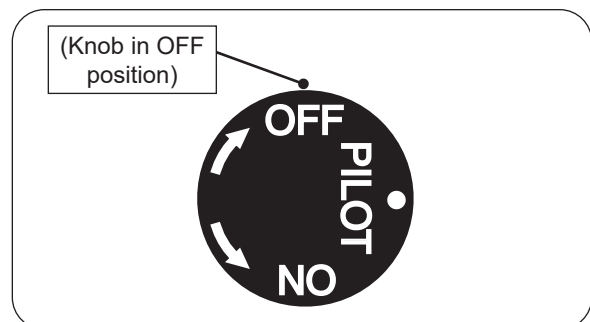

Fig. 23-2 Pilot shut down
2. Locate the valve on the side of the unit. Push in the gas control knob slightly and turn clockwise  to **OFF** (see Fig. 23-2).
Push in the control knob slightly and turn clockwise  to **OFF**. Do not force. See Fig. 23-2.